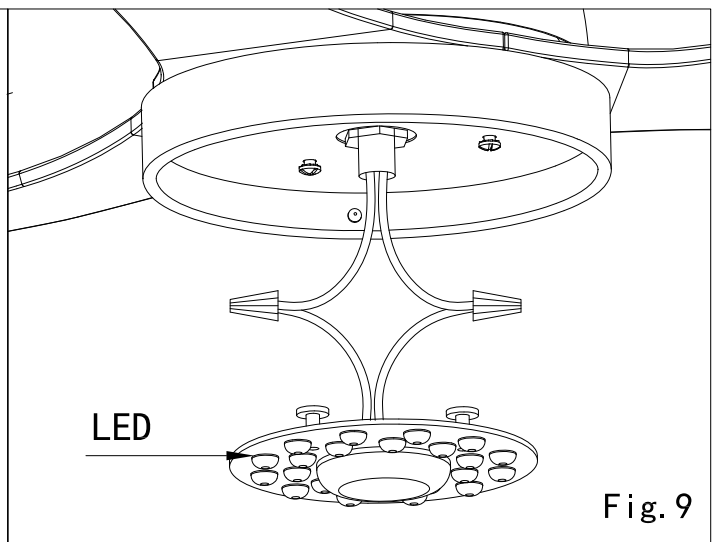

Fig.9
- 1, Connect the wire from fan to LED .Blue to blue ,white to white. (Fig.9)